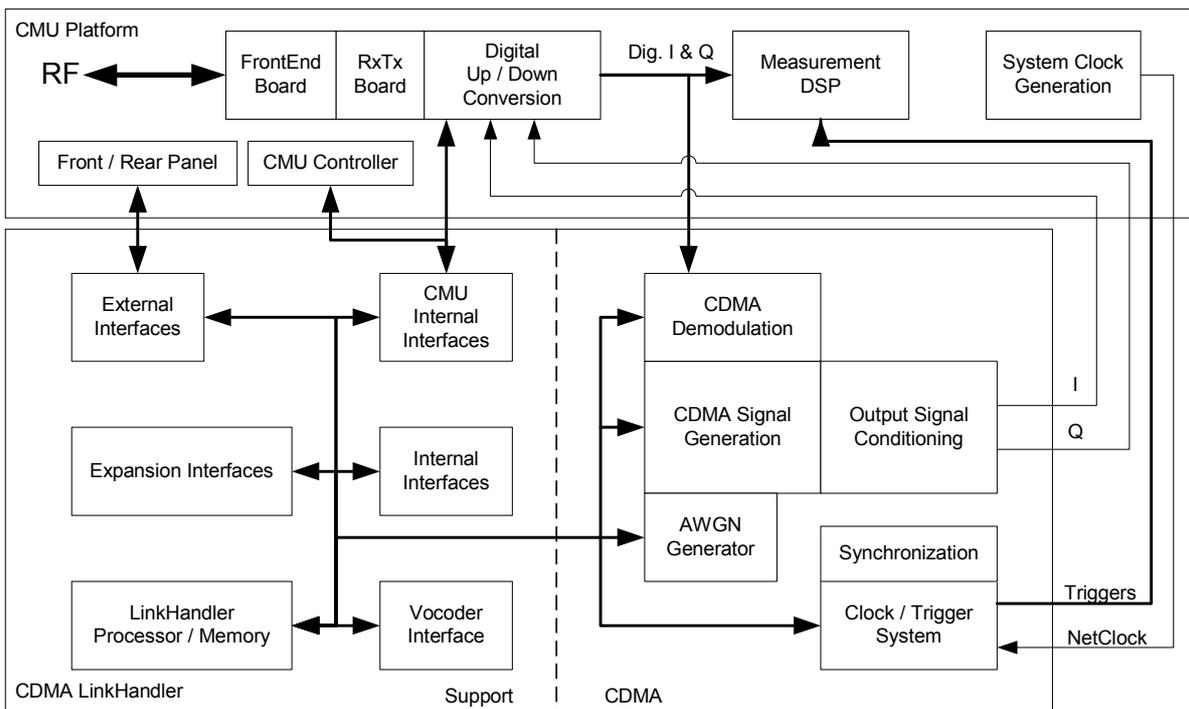

Figure 3-2: CDMA (IS95) Signalling Unit block diagram
Function	<p>As standard (R&amp;S CMU-B66/76), the WCDMA L1COPRO MODULE contains the two sandwich boards WTX MODULE and TX-FEC MODULE.</p> <p>As Option R&amp;S CMU-B68/78, the WCDMA L1COPRO MODULE contains the two two sandwich boards WTX MODULE, TX-FEC MODULE and additional the two sandwich boards WDDC MODULE and RX-FEC MODULE.</p> <p>Three FPGA's on the WCDMA L1COPRO MODULE control all the processes on the module. Two DSP's, one for TX and one for RX, generate and analyse the signals TX-FEC MODULE and RX-FEC MODULE. See Figure 3-2 for a simplified block diagram.</p> <p>Besides, an ISA bus interface is installed for control and data communication with the FRONT MODULE CONTROLLER.</p>
**Function** The CDMA (IS95) Signalling Unit contains the hardware for signal demodulation and signal generation of a CDMA system. See Figure 3-2 for a simplified block diagram.
Function	<p>The CDMA2000 Signalling Unit contains the hardware for signal demodulation and signal generation of a CDMA2000 system. See Figure 3-2 for a simplified block diagram.</p> <p>A POWER PC with peripheral equipment and one FPGA with peripheral ASIC on the board control all the processes on the module</p> <p>An Ethernet interface is available for data input and output (Option R&amp;S CMU-B87).</p> <p>An RS232 interface is available for debugging.</p> <p>An AT-bus interface is used for control and data communication with the front module computer.</p>
**Function** The CDMA2000 Signalling Unit contains the hardware for signal demodulation and signal generation of a CDMA2000 system. See Figure 3-2 for a simplified block diagram.